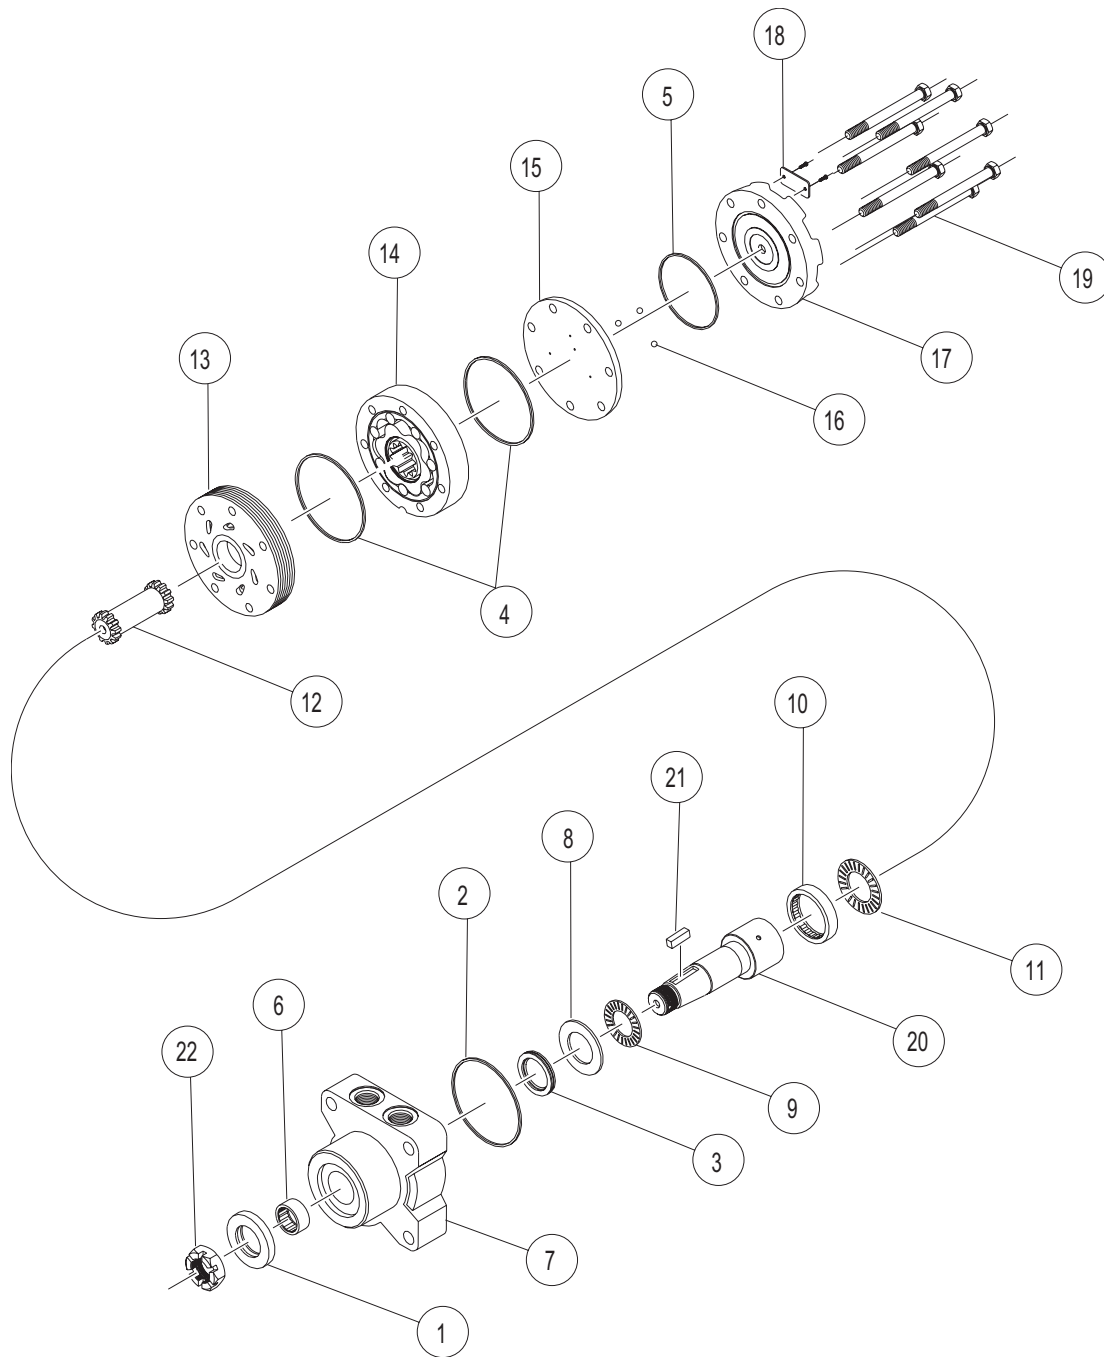

FIGURE 1
- A) Remove all shaft components from the shaft, (20), (i.e., keys, wire rings, nuts). To aid in reassembly of the motor, make a "V" shaped set of lines from the endcover to the housing using either paint or a marker. With the shaft facing down, secure the motor in a vise by clamping onto the housing, (7). Loosen and remove the seven bolts, (19), holding the motor assembly together. Remove the endcover, (17), from the motor.
- B) Remove the balance plate, (15), rotor set, (14), and the manifold, (13), from the motor. Remove all seals from the components and discard. **(Caution - when removing the balance plate, do not allow the three check balls, (16), to fall out of the plate.) (Caution - do not allow the rolls to drop out of the rotor set assembly when removing it from the motor.)** Remove drive link, (12), from the motor and lay aside. Remove the thrust bearing, (11), from the housing and lay aside. From the front of the housing, gently tap the shaft, (20), upward and remove through the rear of the housing.
- C) Using a slide and hammer type bearing puller, (see Figure 1), remove the rear housing bearing, (10), from the housing. Remove the thrust bearing, (9), and lay aside, remove the thrust washer, (8), and lay aside. Remove the shaft seal, (3), and discard. Turn the housing over and remove the dust seal (1).